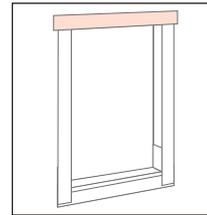

fig. 10
- b. Cut the window flashing tape for the head so it overlaps the side jamb tape by 1" on each side. (**fig. 10**)